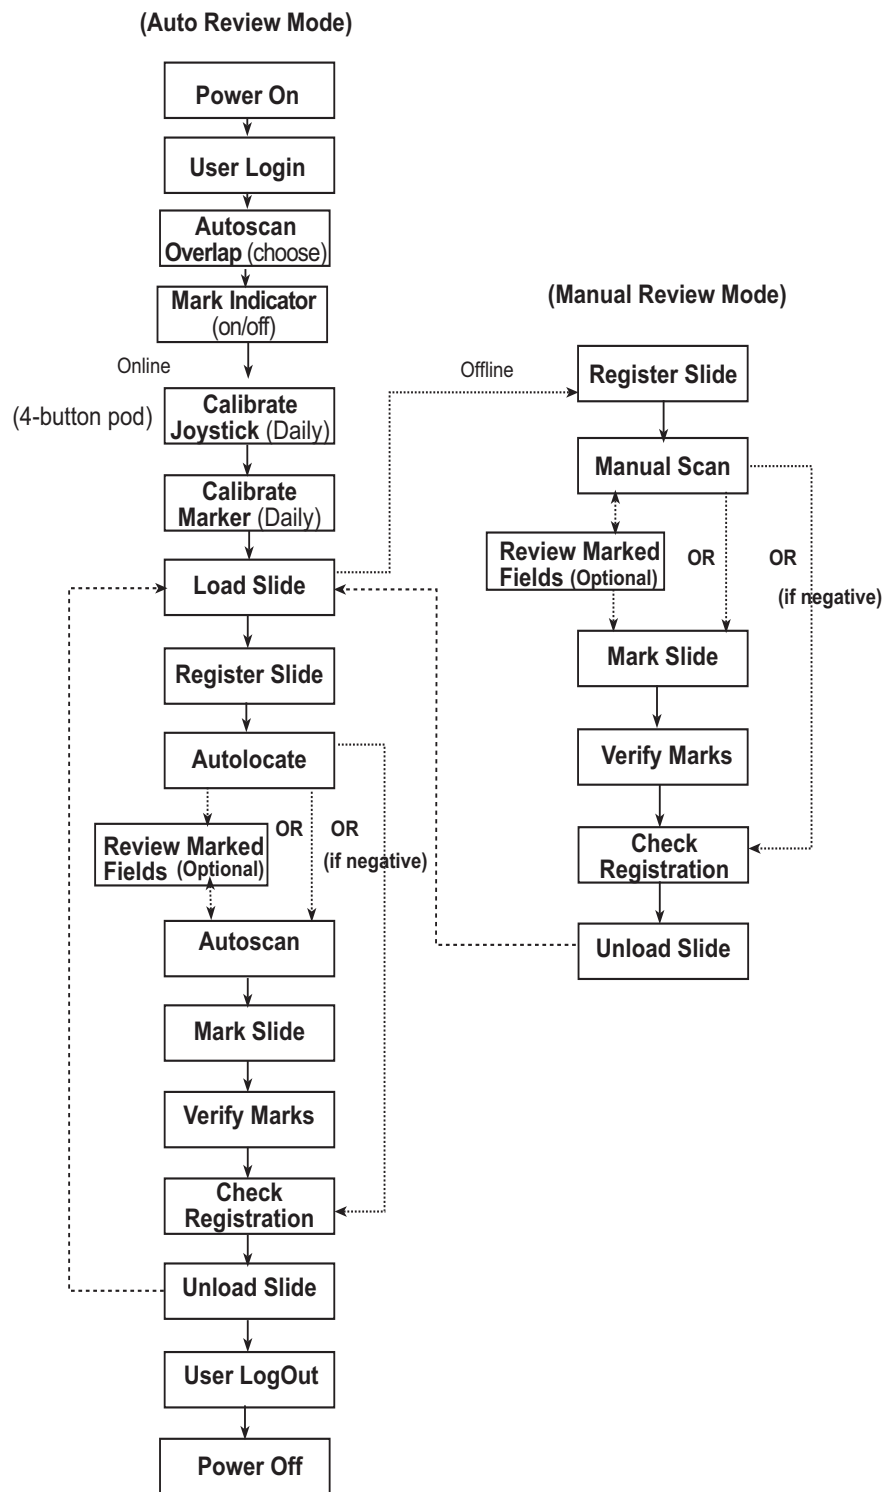

Figure 3-1 Typical Slide Review Process
ThinPrep® Pap Test cervical cytology sample slides processed by the ThinPrep Imaging System are reviewed at the Review Scope (RS). Slide review by a cytotechnologist is assisted by automated features. (Refer to Figure 3-1 for typical slide review process.)
(Refer to Figure 3-1 for a graphical representation of the typical slide review process.)